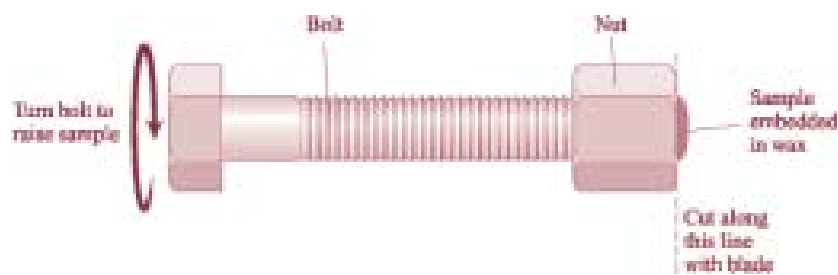

Fig. 1 A
- A simple microtome may be made from a nut and bolt (Fig. 1). Almost remove the bolt from the nut and fill the hole with hot wax. Place the sample in the wax and allow to cool. Then screw the bolt into the nut, raising the wax and allowing a thin section to be cut.